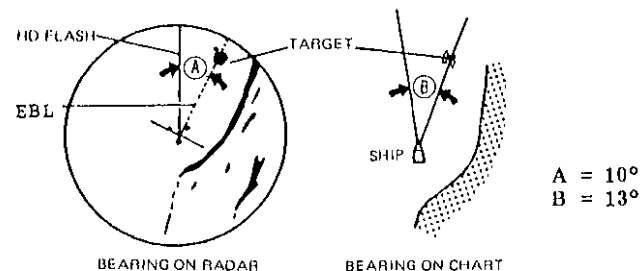

Fig.15 Relative Bearing Alignment
- Adjust the heading flash key, moving to the right-hand side (aft direction) or to the left-hand side (fore direction). For the example in Fig.15, move the heading flash key to the right-hand side by about 2 marks for a correction of 3° error to the starboard side.